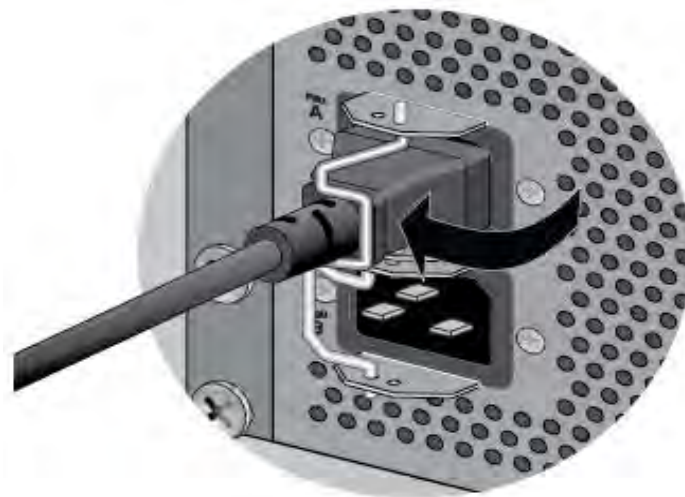

Figure 79. Securing the Power Cord with the Retaining Clip
2. Move the retaining clip over the power cord to secure the cord to the chassis. Refer to Figure 79.